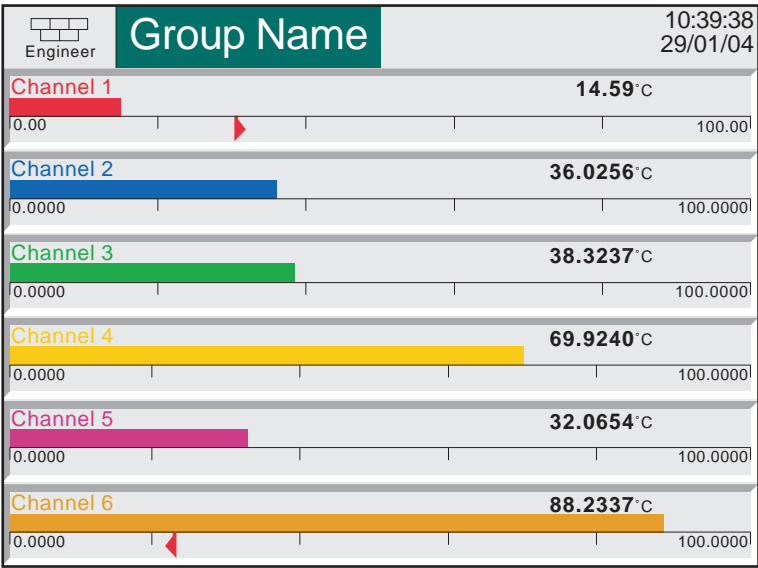

Figure 3.4.4 Horizontal bargraph display
This display mode shows the Process Variable (PV) values as horizontal bars with digital values and alarm data displayed, as shown in figure 3.4.4. Trend History mode is not available from this display mode.